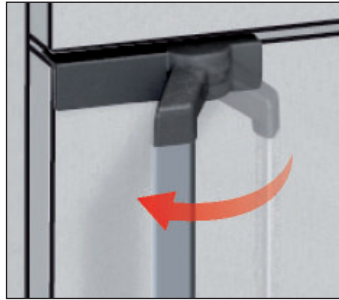

Fig. 18 Closing the door
- ▶ To close the appliance, push the door closed and push the door handle to the front (Fig. 18).